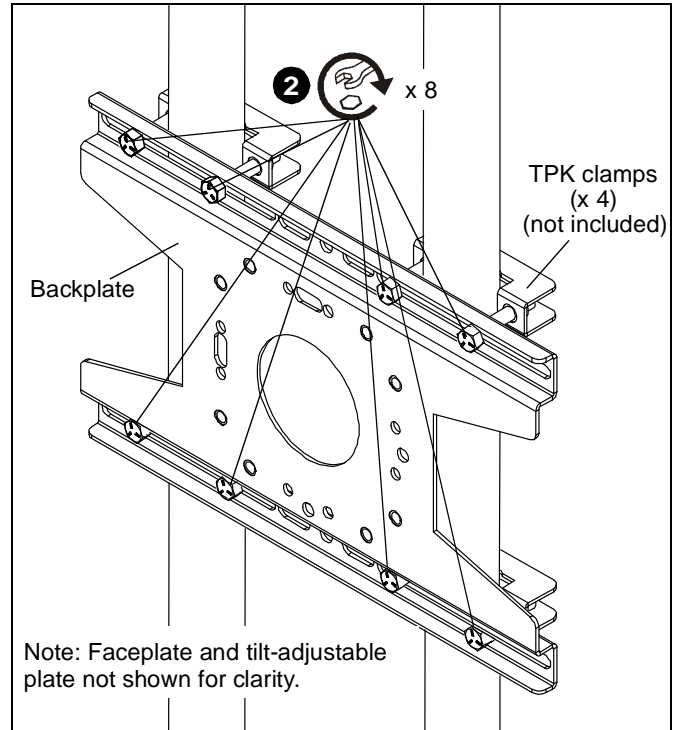

Figure 6
1. Securely anchor TPP backplate to vertical poles using Chief TPK accessory clamps (not included) following instructions included with TPK kit. (See Figure 6)